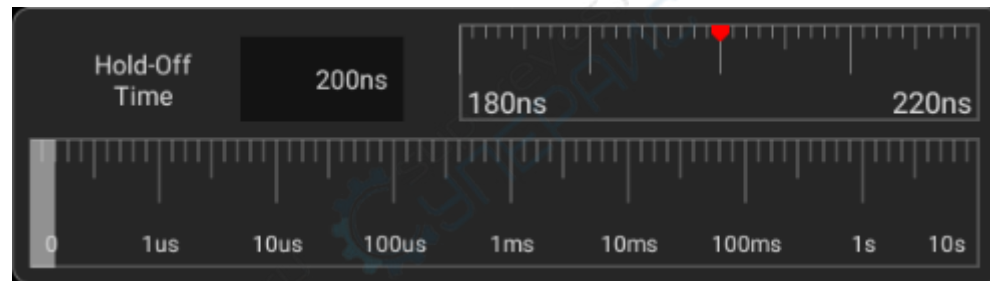

Figure 5-11 Trigger Hold-Off Time Set Interface
- 1) Tap “Trigger” on the main menu to open the trigger menu. Under “Common”, tap the box after “Rejection Time” to open the hold-off time adjustment interface. The trigger time is displayed on the upper left, the fine adjustment time scale is displayed on the upper right, and the coarse time scale is displayed below, as shown in Figure 5-11.
- 1) Tap “Trigger” on the main menu to open the trigger menu, select edge trigger in the trigger type, and set edge trigger as follows, as shown in Figure 5-11: